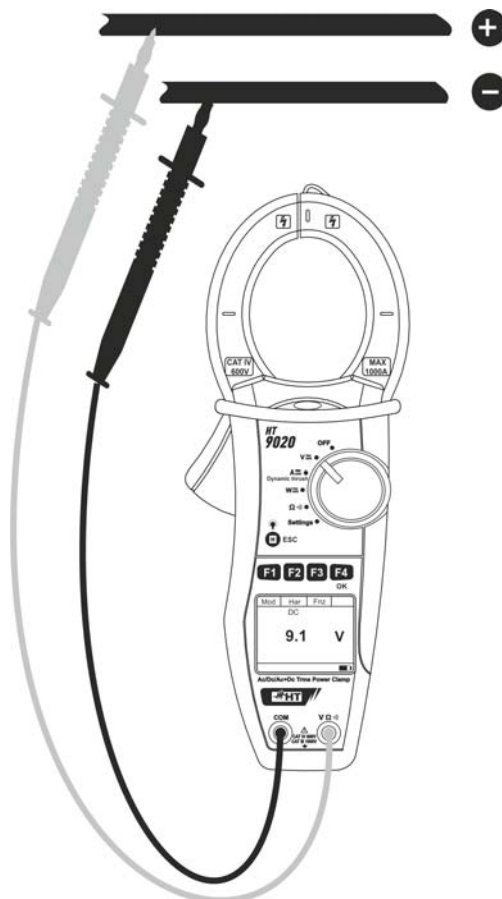

Fig. 5: DC Voltage measurement
4. Connect red cable to input lead **VΩ⁾⁾⁾** and black cable to input lead **COM** then position the leads at the desired points of the circuit under test (see Fig. 5)